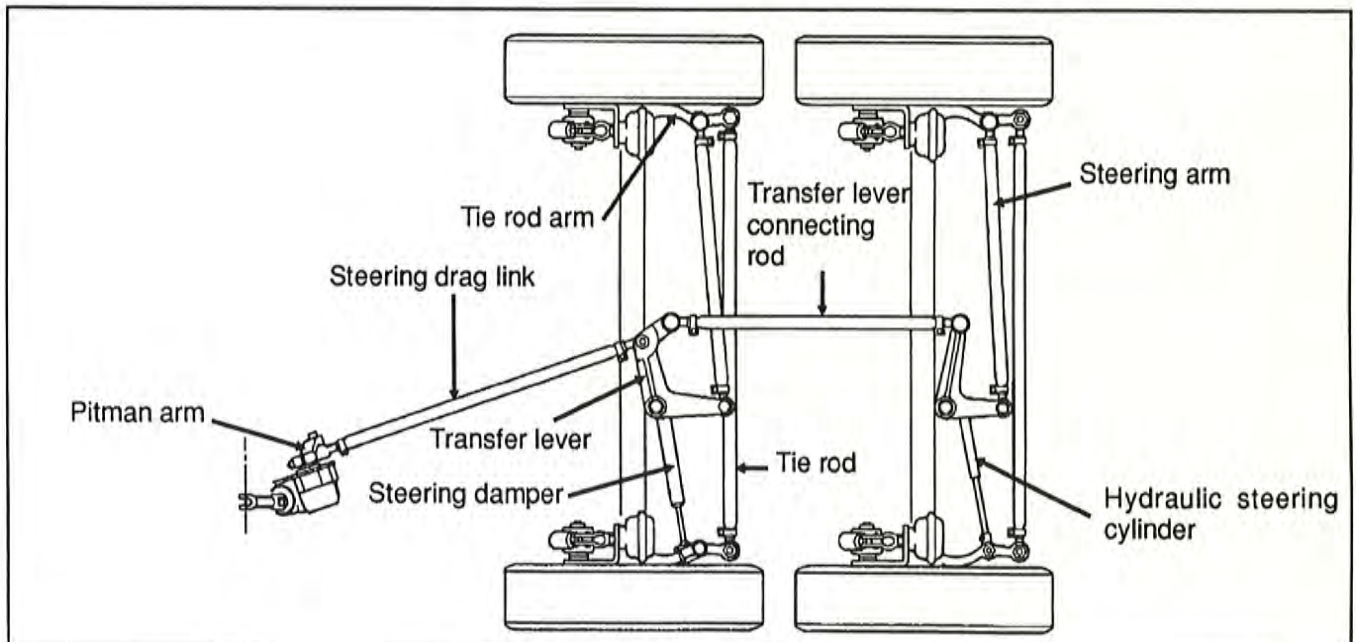

FIG. 2
4. Remove the transfer lever connecting rod and the steering drag link (located between pitman arm and the first transfer lever). Refer to figure 2 for details.